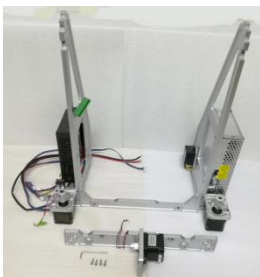
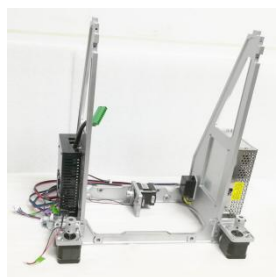

Fig.b08
Fig.b09
STEP 1-4: Add what done in step 1-3 to the main frame which was done in step 1-2, and fasten them by 4pcs of M3*10 socket cap screws. From Fig.b08 to Fig.b09, it illustrates how is this going.